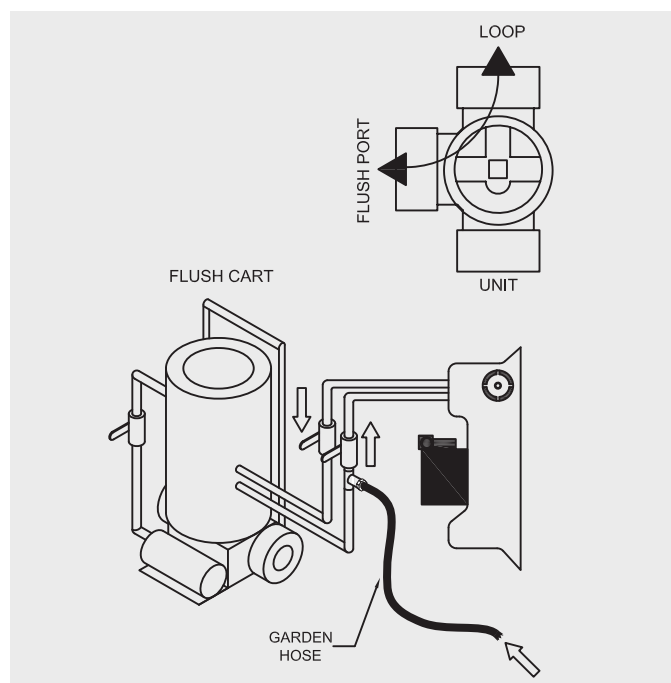

Fig. 111 Flush cart step 1
1. Fill the ground loop with water from a garden hose through the flush cart before using the flush cart pump to insure an even fill (Fig. 111). Connect the flush cart hoses to the flow center flush ports using proper adapters. Connect the water supply to the hose connection on the return line of the flush cart. Turn both 3-way valves on the flow center to the flush ports and loop position. Turn on the water supply, making sure the water is of proper quality.